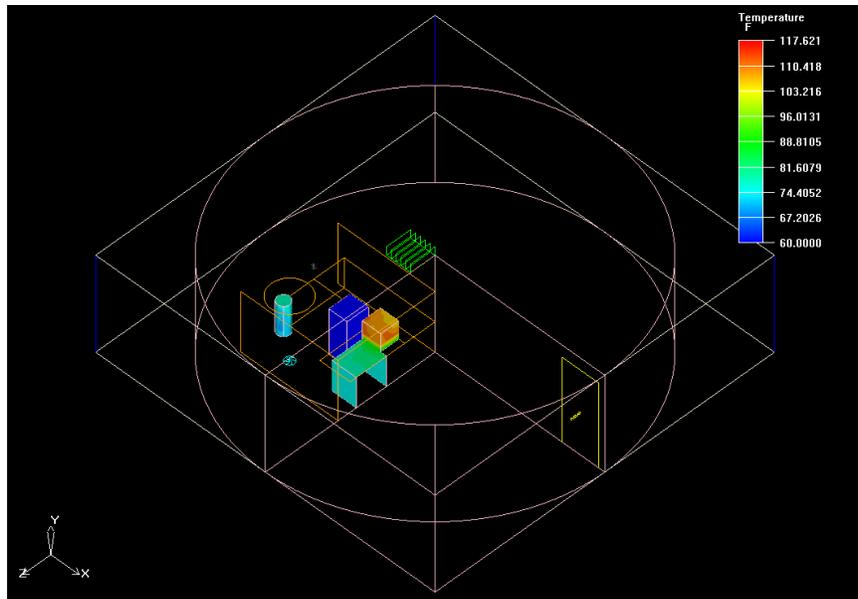

Figure 4.22: Temperature Contours on Block Objects in the Room
*Figure 4.22 shows temperature contours on the group of four blocks in the room.*